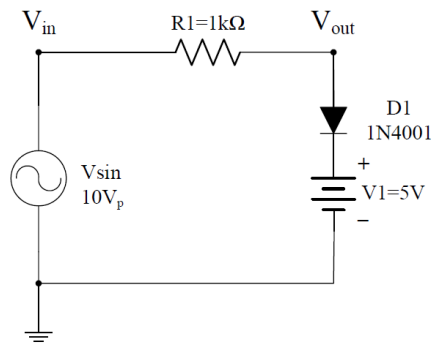
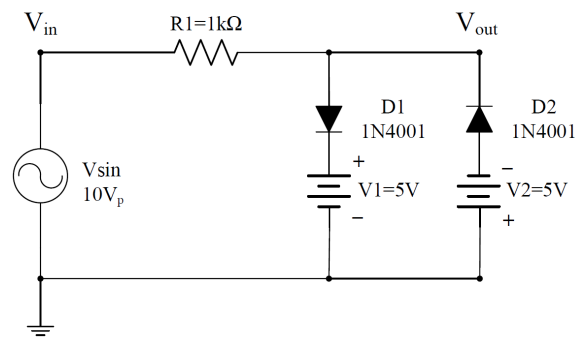

Figure 4
Figure 5
- b) **Part 2:** Setup the circuits given in Figure 4 and Figure 5 in OrCAD. Use 1N4001 diode model. Set frequency to 1kHz and plot the input and output voltages on the same plot pane for two time periods. Repeat the simulation for $V_1 = 0$ and $V_1 = 12V$ for Figure 4. Repeat the simulation for voltage values given in a, b,c for the circuit given in Figure 5. Observe how the output changes. Explain how the circuits work.
1. Build the circuit given in Fig. 4. Connect a $10V_p$ sinusoidal voltage source ($f=1kHz$) and draw the output that you observe on the oscilloscope for $V1=0V$. Observe how the output changes if $V1$ is tuned to $5V$ and $12V$.
2. Build the circuit in Fig. 5. Draw the output that you observe on the oscilloscope for the voltages of V_1 and V_2 given below.